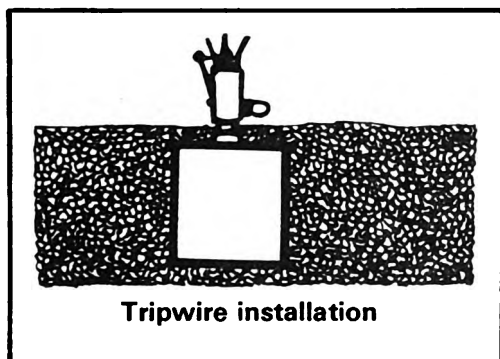

Figure 3.
- c. Bury the mine and install tripwires (figures 3 and 4).